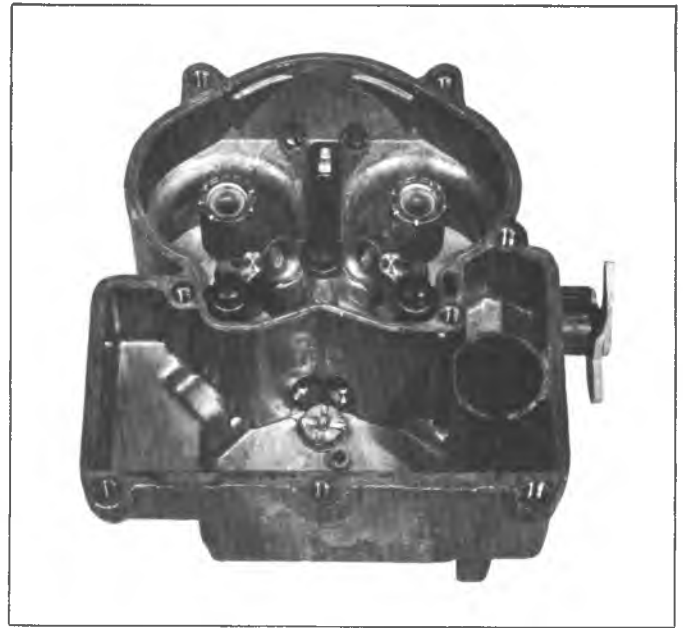

Fig. V5--Bowl Assembly--Parts Location
5. Install small aluminum ball into the bottom of pump well inlet channel and make sure the ball is seated in channel. Install the pump return spring into pump well, apply finger pressure to center it in the pump well over the inlet check ball. Install the pump inlet strainer into the cavity provided in the bottom of float bowl and make sure that it is seated securely. Figure V5 shows the float bowl and throttle body at this stage of assembly.